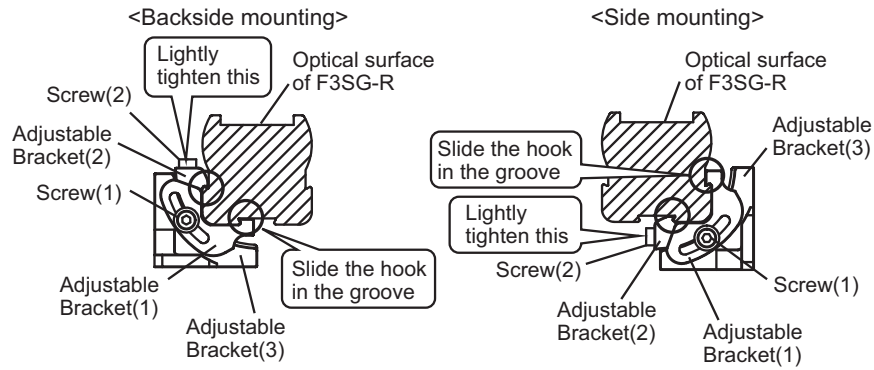

Fig. 2
- Slide the hooks of the Adjustable Bracket (1) and the Adjustable Bracket (2) in the grooves of the F3SG-R housing. Lightly tighten the Screw (2). (Fig. 2)